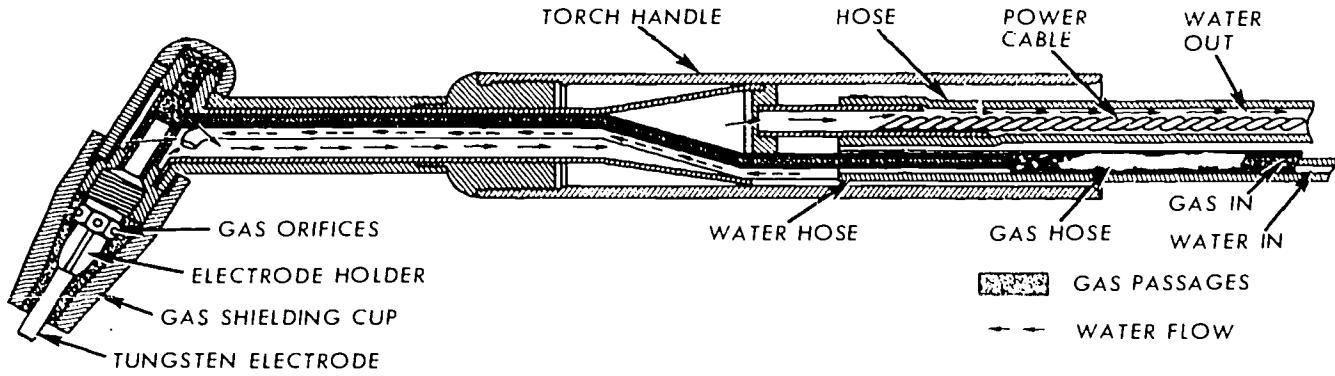

Figure 5-5. Water-cooled, inert-gas-shielded welding torch.
**Water-cooled torch.** The water-cooled torch, shown in figure 5-5, is designed to operate at current ratings from 100 to 300 amperes. Water cooling of the torch and power cable for inert-gas-shielded welding makes it possible to use lightweight parts capable of carrying the rated current without danger overheating. The power cable is located in the water discharge hose. Water flow should be from 1 to 2 pints per minute. A special fuse of about 45 amperes is installed in the power leadline to the torch to protect the equipment from overheating in case of water stoppage. The torch head consists basically of these three parts: (1) the collet or electrode holder, (2) the gas-shielding cup, and (3) the tungsten electrode. The shielding gas enters through a plastic hose fitted to the rear of the torch handle, passes through the body, and emerges from the gas orifices in the torch head. It is then guided down toward the weld or molten pool by the gas-shielding cup that surrounds the electrode.